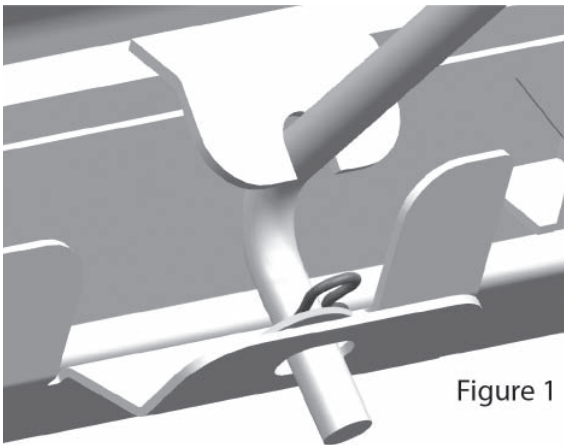

Figure 1
2. Insert rod end into gate slide. Lock in place with hairpin clip and washer as shown in Figure 1.